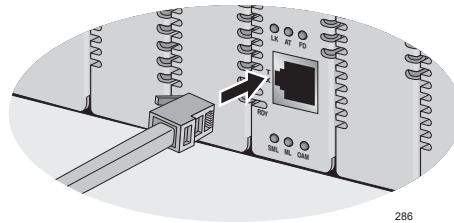

Figure 31. Connecting to the Twisted Pair Port
1. Connect the twisted pair cable to the twisted pair port, as shown in Figure 31.
1. Connect the 8-pin Mini-DIN end of the RS-232 serial cable to the console port on the front of the AT-CM70S line card, as shown in Figure 31.